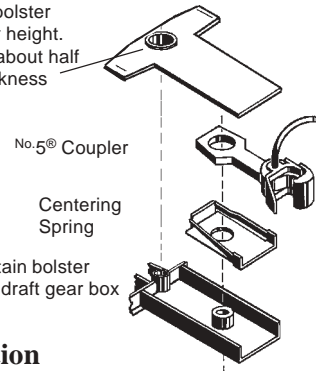

Fig.1
3. Modify bottom of draft gear box/bolster cover hub to adjust coupler height. File down bolster hub evenly about half way, leaving .010" thickness from surface. See Fig.1.